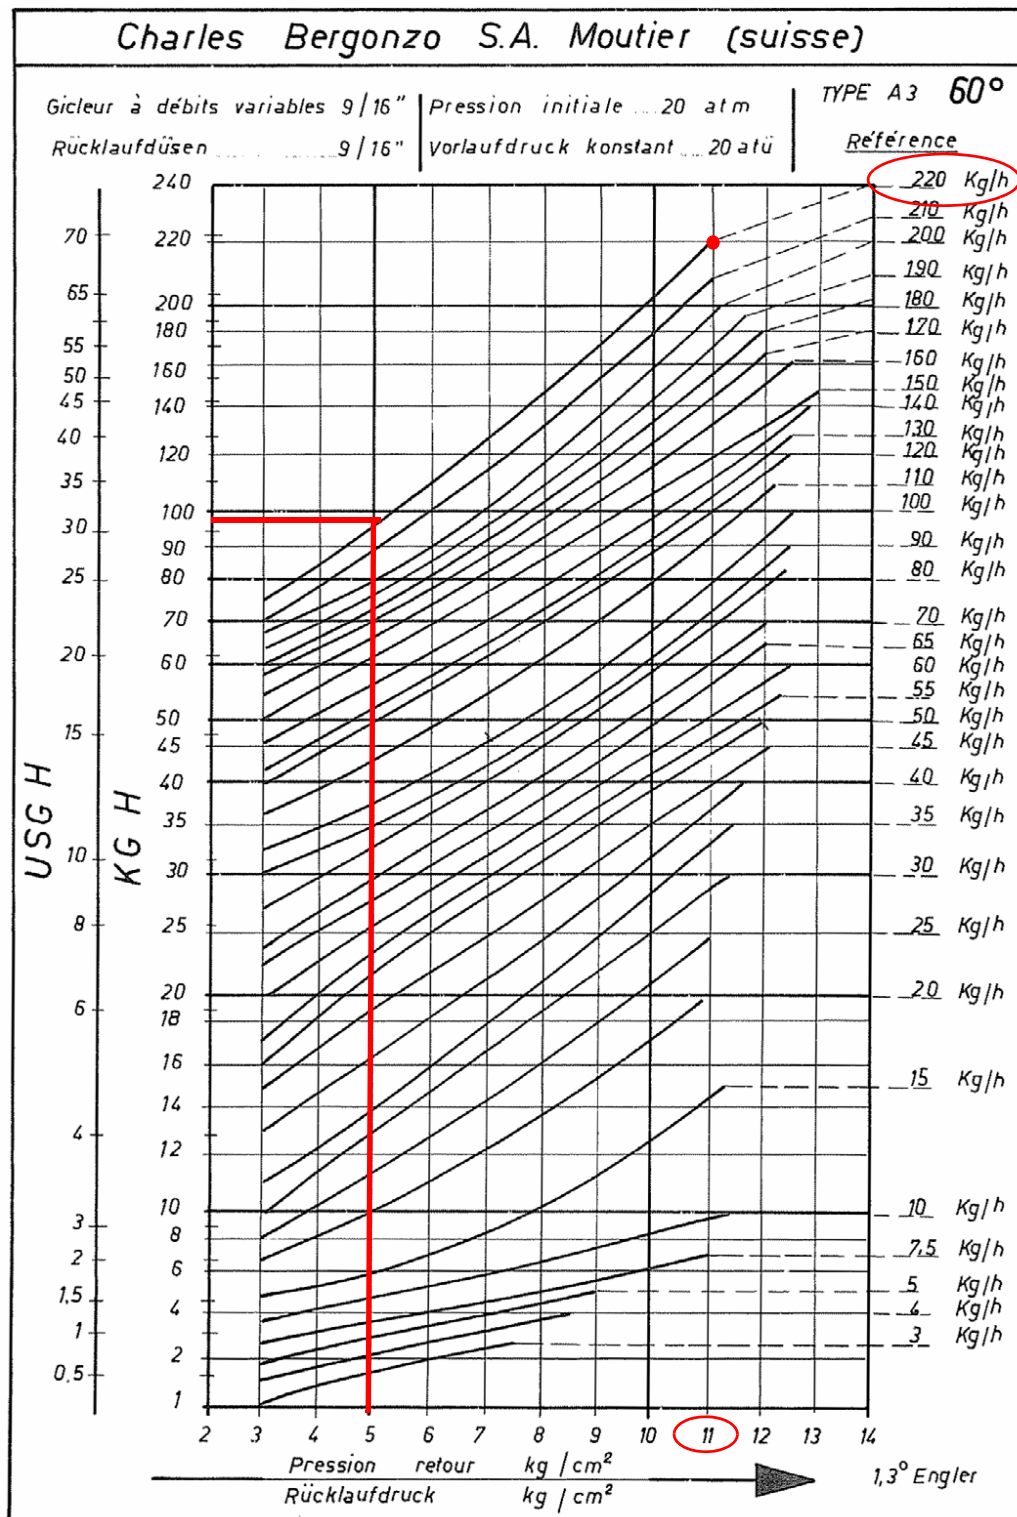

Fig. 21
The light oil flow rate can be adjusted choosing a by-pass nozzle that suits the boiler/utilisation output and setting the delivery and return pressure values according to the ones quoted on the chart below and the diagram on Fig. 21-Fig. 22 (as far as reading the pressure values, see next paragraphs).
**Example (Bergonzo):** if a 220kg/h flow rate BERGONZO nozzle is provided, set the return pressure at 11bar, supply at 20bar on the delivery to get a 220kg/h flow rate. If the return pressure needed is 5bar, instead, act on the V adjusting screw on the pressure governor (see chapter on page 32). The flow rate will then be about 95kg/h (see the example showed on the Bergonzo diagram-Fig. 21).